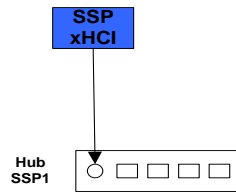

Figure 5-7: Hub Only Topology
- Configure the hub as shown in Figure 5-7 and attach it to SSP xHCI port.